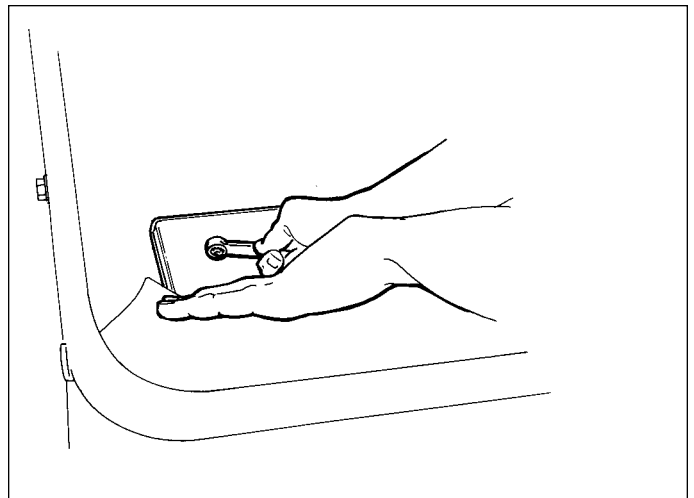

Figure 5. Installing Hardware Inside Hopper
3. See Figure 5. From the inside of the hopper, install (1) 5/16-18 x 3/4 hex head bolt, 5/16 lockwasher, and 5/16 flat washer into each of the upper and lower holes of the metal hopper liner. Do not tighten at this time.